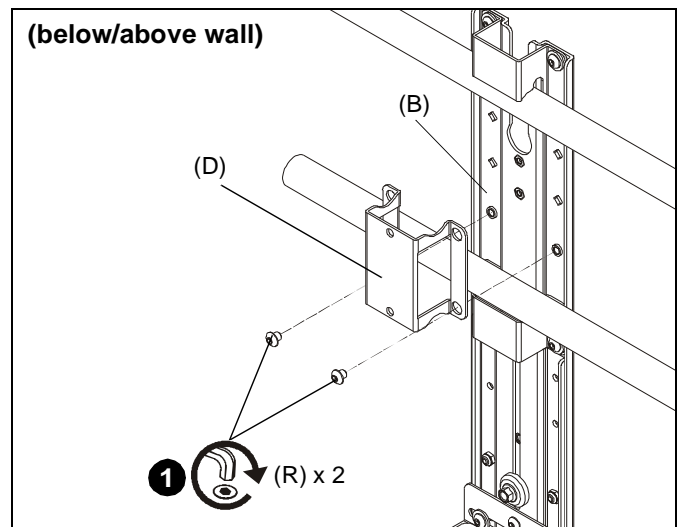

Figure 33
**NOTE:** For cart/ceiling minimum height extension installations, extender box holder (D) was already installed as part of the accessory installation. Proceed to Viewshare Installation Section.
1. Use two 1/4-20 x 1/4" button head cap screws (R) to secure extender box holder (D) to main bracket (B) at the correct location depending on configuration.
- To wall, in between mounting rails. (See Figure 33)